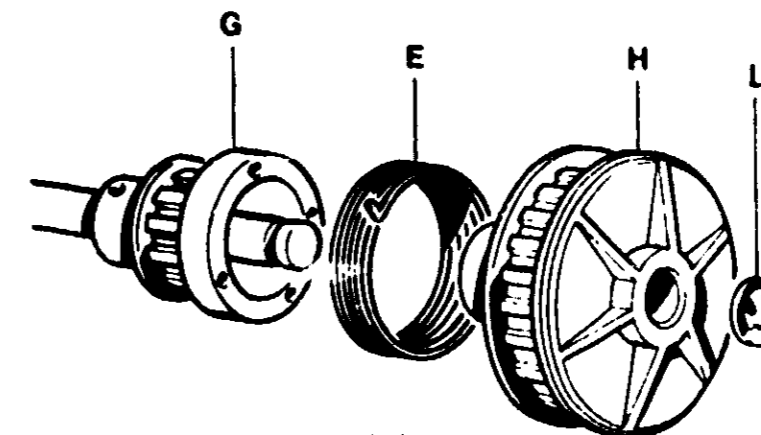

FIGURE 57
- Check the condition of spring (E) and its hooked end (F). Replace if needed. To replace spring, remove E clip (L) (Figure 57). Slip off toothed pulley (H) and remove spring (E) by slipping it around pulley (G).
- Reinstall toothed pulley (H) and E clip (L) (Figure 57).